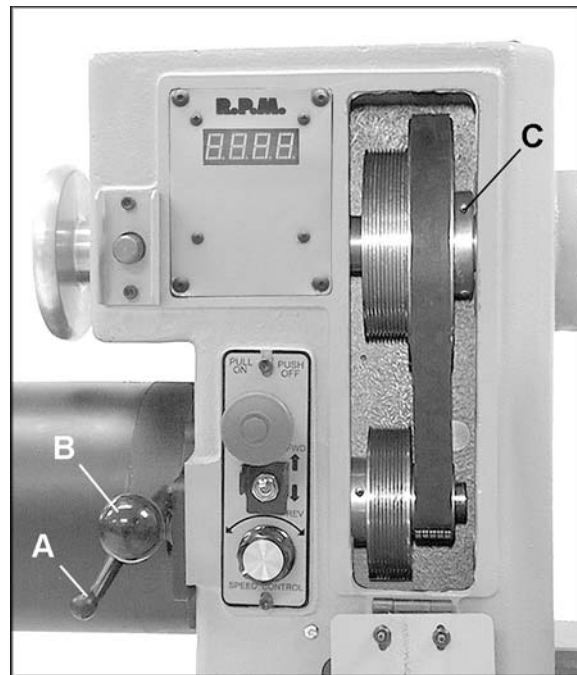

Figure 27
2. Loosen the pivot lock handle (A, Figure 27) and lift up the tension handle (B, Figure 27) to raise the motor.
3. Tighten the pivot lock handle (A, Figure 27) to hold the motor in the raised position. Slip the belt off the pulleys.
7. If replacing the spindle sheave, loosen the two set screws (C, Figure 27), and slide the sheave off the spindle.